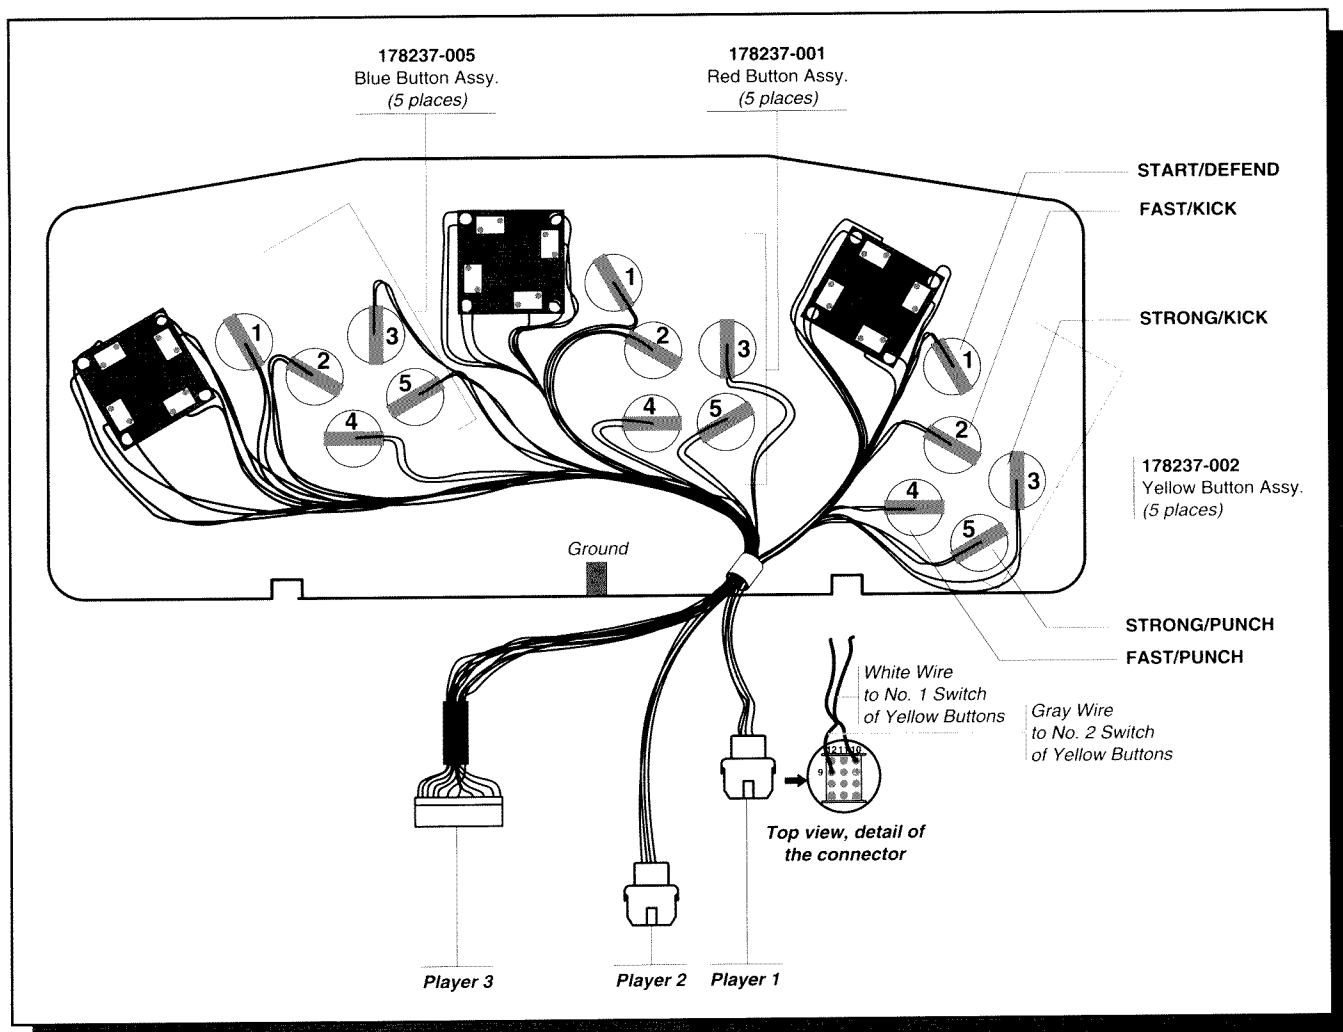

Figure 1-6 Connections for Optional Three-Player Harness
Connect the joysticks and switches to the JAMMA harness using crimp splices or butt soldering. Follow the wiring instructions in Table 1-3 and refer to Figure 1-6 for switch numbers.
9. Rearrange the original three switches to their correct placements, following Table 1-3 and Figure 1-6.
Follow these steps (See Figure 1-6):
2. Install the kit three-player harness (Atari part no. A049811-01) and route it to the appropriate switches by referring to Table 1-4 and Figure 1-6.